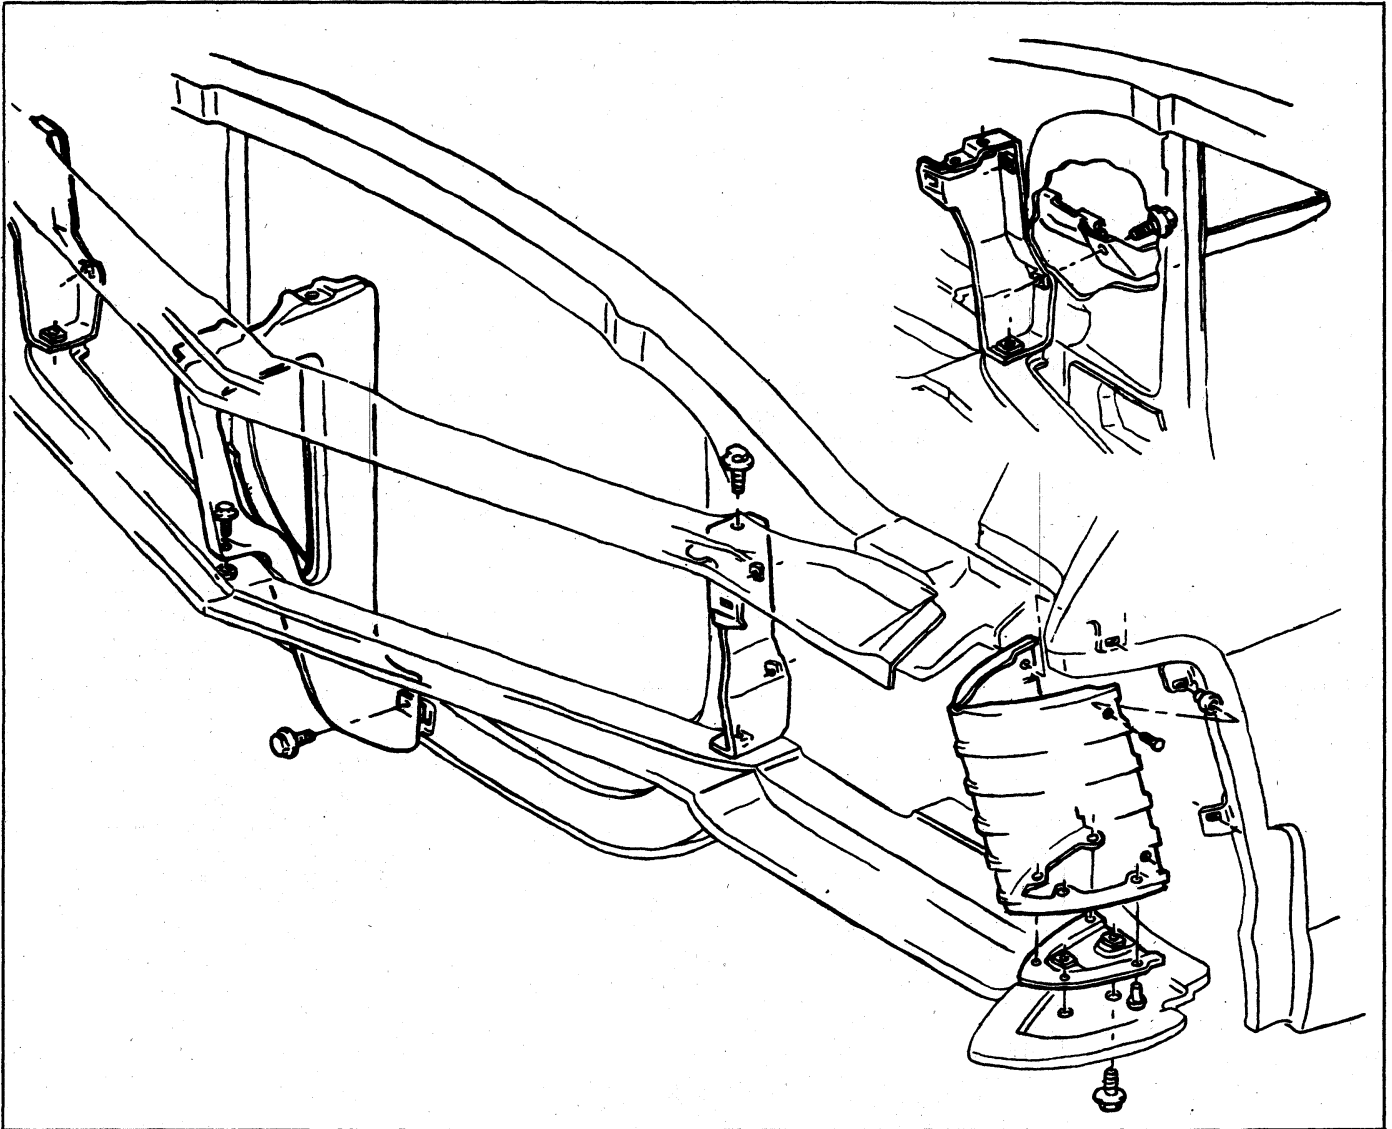

Fig. 6 - Fender Trim Plate - Attaching Hardware
5. Remove screws and rivets from each fender trim plate and remove fender trim plates with reinforcements from vehicle. Refer to Figure 6 for attaching hardware locations.